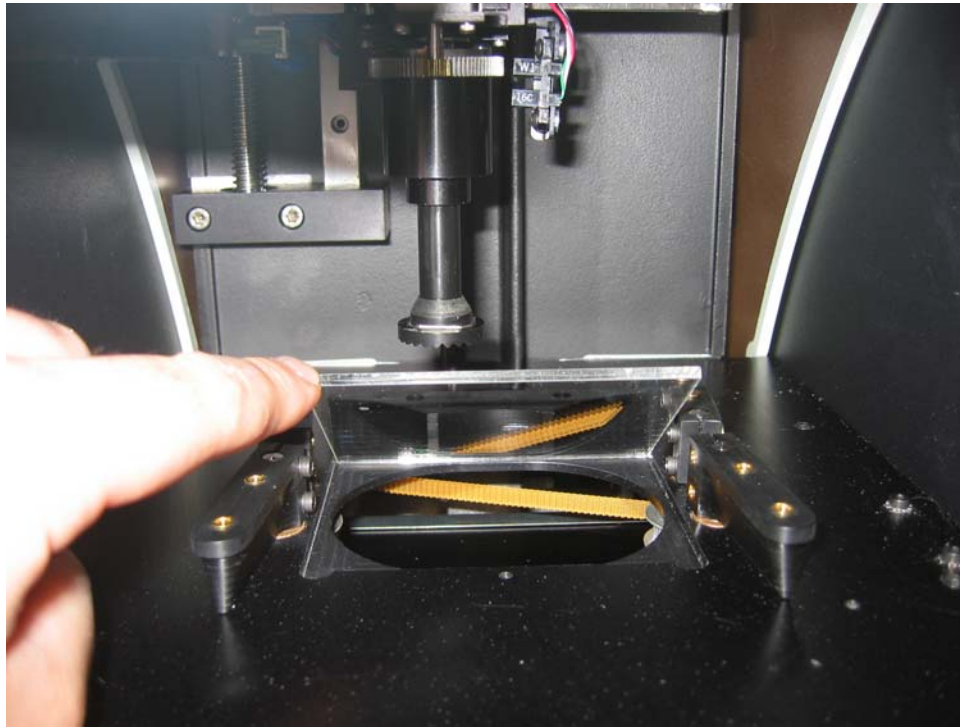

Figure 1.5 – Installing the Glass Plate
10. Glass plate (See Fig. 1.5) Remove and install in the blocking chamber as described later in this chapter.